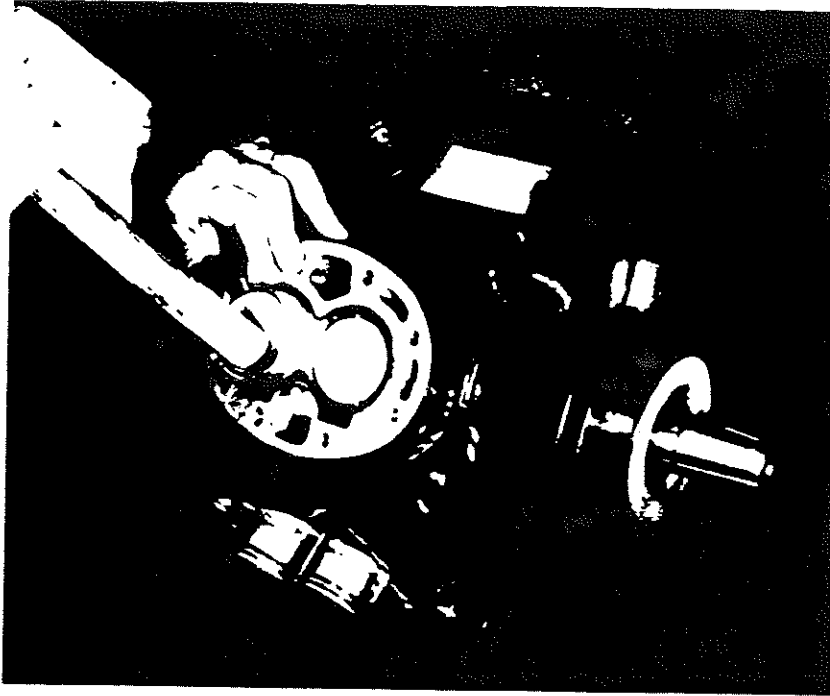

Figure 3-15. Installing Pistons
a. Do not tap piston with hammer if rings are caught at entrance to the cylinder. Using a ring compressor, squeeze rings sufficiently to allow piston to be pushed down into the cylinder. Ensure that ring ends are staggered so that the gaps are not aligned, and lightly tap piston down into the cylinder. (See figure 3-15.) The ring compressor can be easily fabricated from a piece of sheet metal.